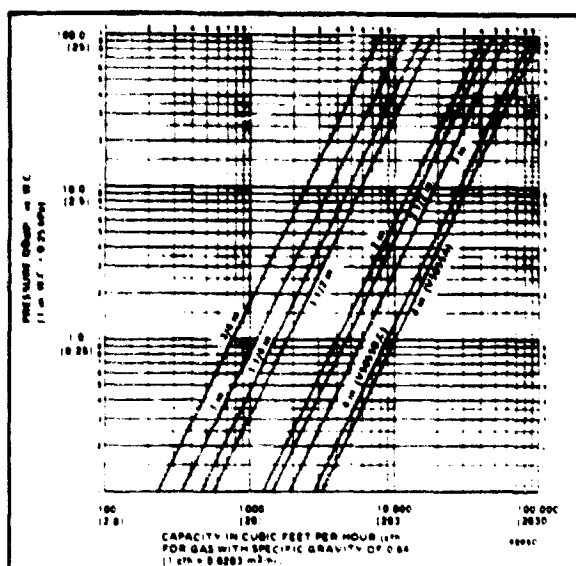

FIG. 1—FLOW CURVES FOR V5055 VALVES.
**VALVE CAPACITIES:** A.G.A. ratings at 1 in. (0.25 kPa) pressure drop; based on gas with specific gravity of 0.64. (See Fig. 1 for other pressure drops.)
5. Use the corrected capacity in cfh when determining the gas valve size on Fig. 1.
6. Determine the maximum pressure drop across the valve, and draw a horizontal line at this pressure on Fig. 1.
7. Draw a vertical line on Fig. 1 at the capacity (cfh) previously determined. Use the corrected capacity for a gas with a specific gravity other than 0.64.
4. Find the valve size from Fig. 1.